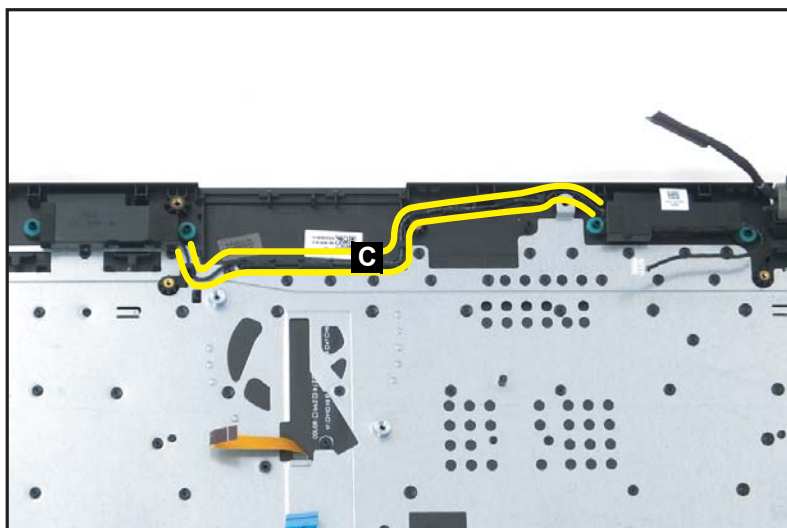

Figure 1-84. Replacing the Speaker Module
2. Route the speaker cable (C) along the cable guides on the upper part of top assembly (Figure 1-84).